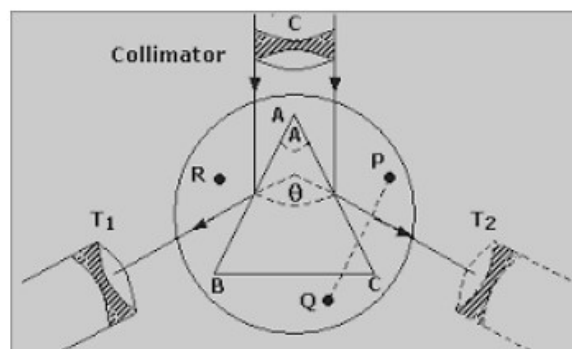

*Fig. 2 Spectrometer*
1. The spectrometer and the prism table are arranged in horizontal position by using the levelling screws (as shown in Figure 2).